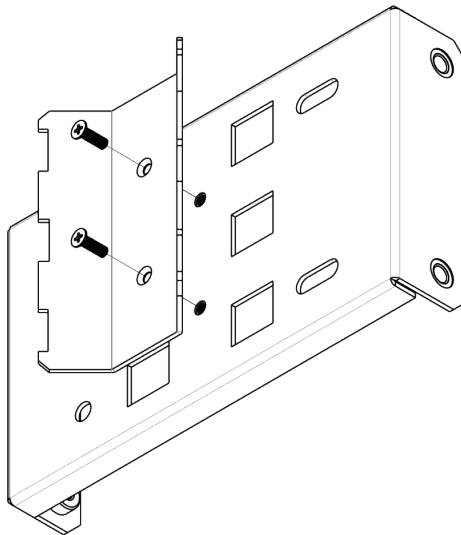

Figure 8 – Bracket for attaching to mast/pole
- a. Connect bracket, that will be attached to a mast/pole, to bracket, that will be attached to the device, as shown in Figure 8.